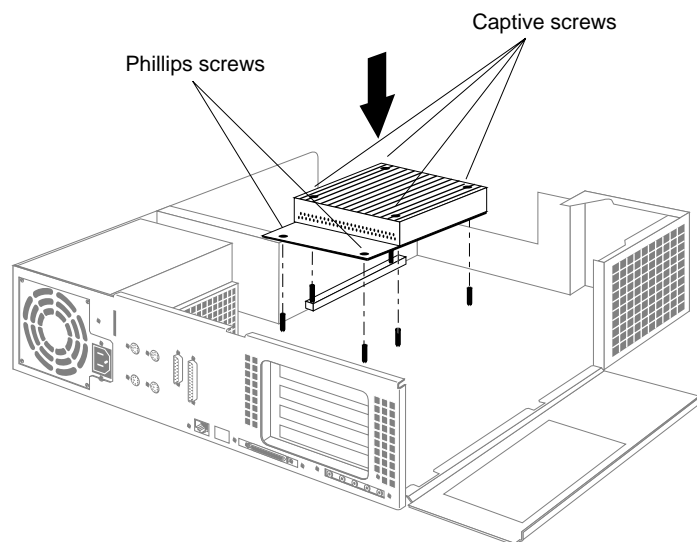

Figure 2-11 Installing the CPU Module
- Position the new module so that the connector on the bottom of the module aligns with the socket on the system board, as shown in Figure 2-11.
5. Secure the module to the system board, as shown in Figure 2-11.
- Insert and tighten the two Phillips screws in the location shown in Figure 2-11.